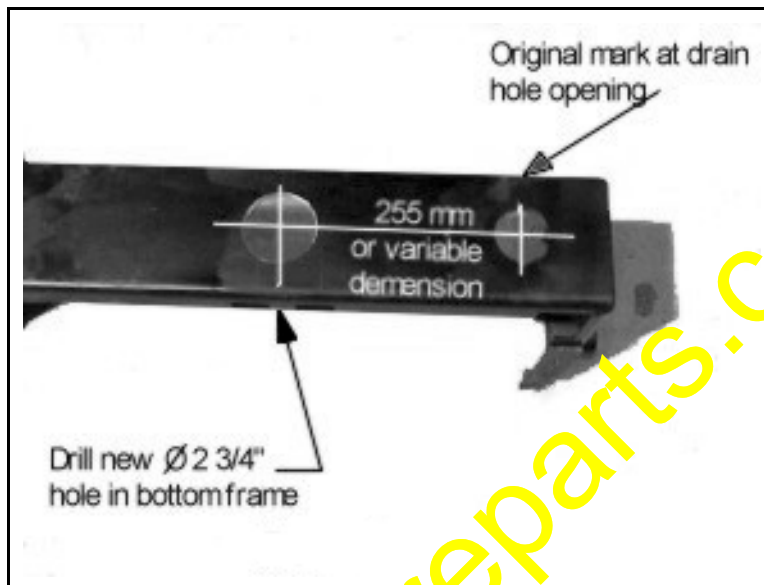

Figure 7 Frame Modification Dimensions
- d. As shown in Figure 7 and using a hole saw, drill a 2-3/4" hole in the bottom frame.